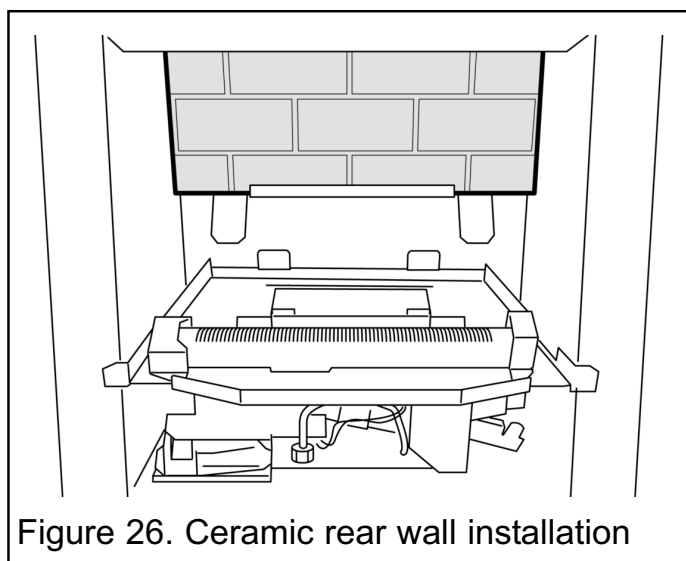

Figure 26. Ceramic rear wall installation
1. Fit the ceramic rear wall inside the "L" bracket on the back face of the burner compartment. Push the ceramic wall flat against the back face of the burner compartment (See figure 26).